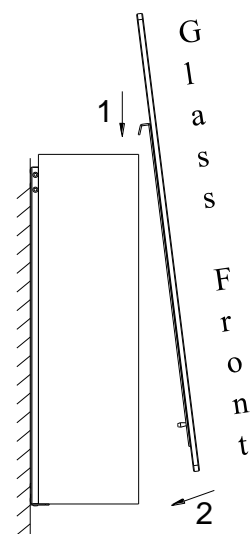

Fig. 7
- Install the fireplace front as pictured. (Fig. 7) Secure the fireplace front with 2 M4x8 screws in the tabs on top of the fire box